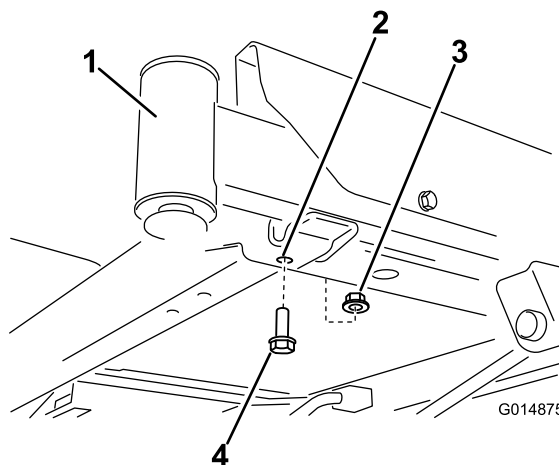

Figure 3
1. Locate the front bolts on the underside of the frame (Figure 3 and Figure 4).